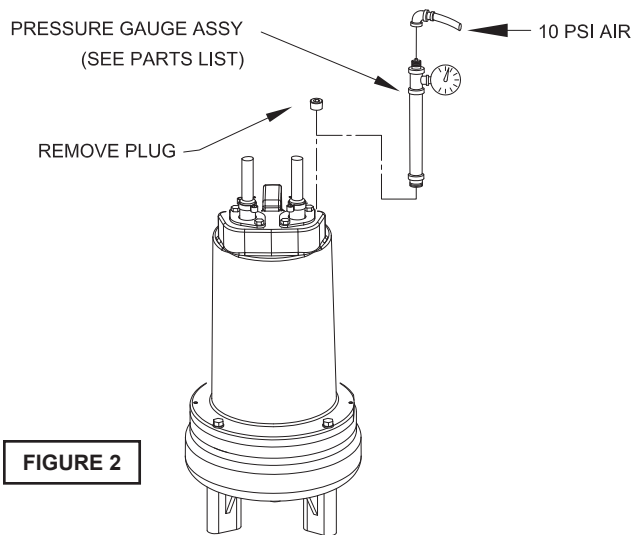

FIGURE 2
Pumps that have been disassembled, Motor Housing- If the pump has been disassembled, the oil should be drained before a pressure test, as described in section F-1.1. Remove pipe plug (39) from motor housing (6). Apply pipe sealant to pressure gauge assembly and tighten into hole (See Figure 2). Pressurize motor housing to 10 P.S.I. Use soap solution around the sealed areas and inspect joints for "air bubbles". If, after five minutes, the pressure is still holding constant, and no "bubbles" are observed, slowly bleed the pressure and remove the gauge assembly. Replace oil as described in section F-1.4. If the pressure does not hold, then the leak must be located and repaired.
The pressure test may be done with the oil at its normal level. Remove pipe plug (39) from motor housing (6). Apply pipe sealant to pressure gauge assembly and tighten into hole (see Figure 2). Pressurize motor housing to 10 P.S.I. Use soap solution around the sealed areas above the oil level and inspect joints for "air bubbles". For sealed areas below the oil level, leaks will seep oil. If, after five minutes, the pressure is still holding constant, and no "bubbles"/oil seepage is observed, slowly bleed the pressure and remove the gauge assembly. If the pressure does not hold, then the leak must be located and repaired.